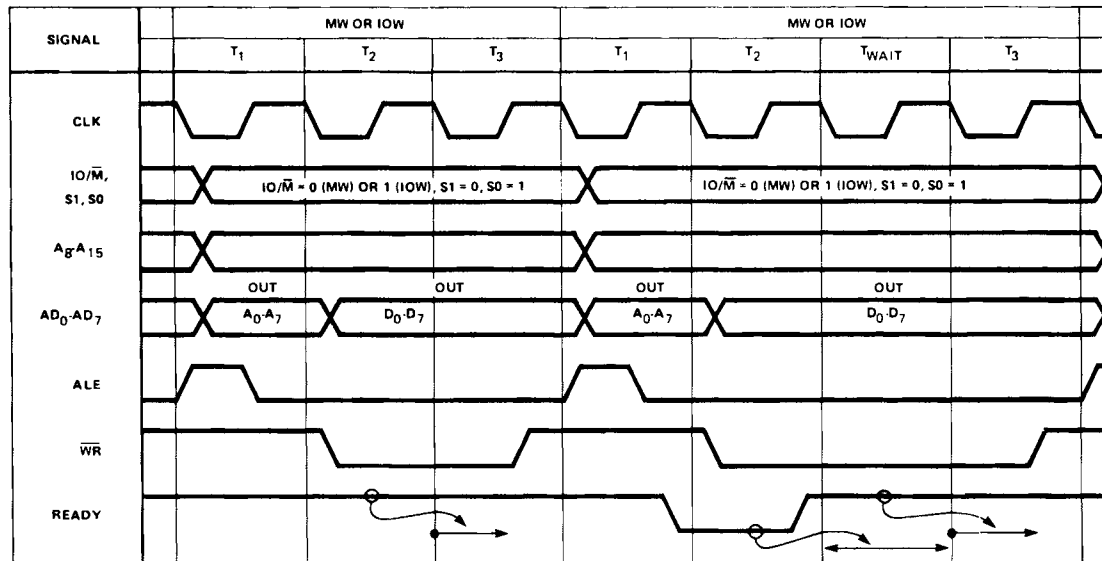

Figure 4-6. Memory or I/O Write Machine Cycle
**4-21. MEMORY WRITE TIMING.** Figure 4-6 shows the timing of two successive memory write machine cycles, the first without a  $T_{wait}$  state. Again, disregarding the states of the S0 and S1 lines, the timing during  $T_1$  is identical to the timing of an opcode fetch, memory read, and I/O read cycles. The difference occurs, however, at the end of  $T_1$ . For instance, in a memory read cycle the AD0-AD7 lines are disabled (high impedance) at the beginning of  $T_2$  in anticipation of the returned data. In a memory write cycle, the AD0-AD7 lines are not disabled and
**4-22. I/O WRITE TIMING.** Figure 4-6 also illustrates the timing of two successive I/O write machine cycles, the first without a Twait state and the second with one Twait state. With the exception of the IO/M status signal, the timing of a memory write cycle and an I/O cycle are identical.